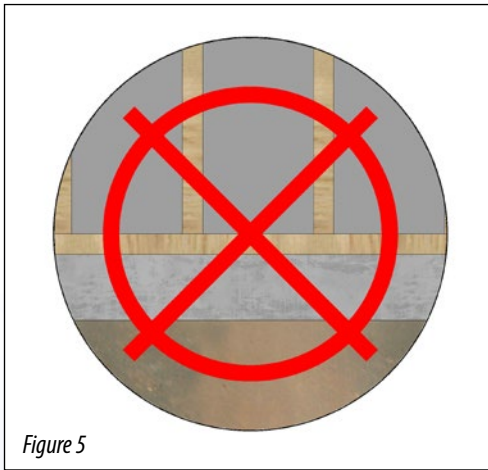

Figure 5
2.4 There must be ventilation and water drainage at the bottom of each wall, using either vented starter strip or a bug screen. **USING A FURRING STRIP HORIZONTALLY AT THE BASE WILL SEVERLY BLOCK OR LIMIT VENTILATION AND DRAINAGE AND WILL VOID THE WARRANTY. (fig.5 and 6)**